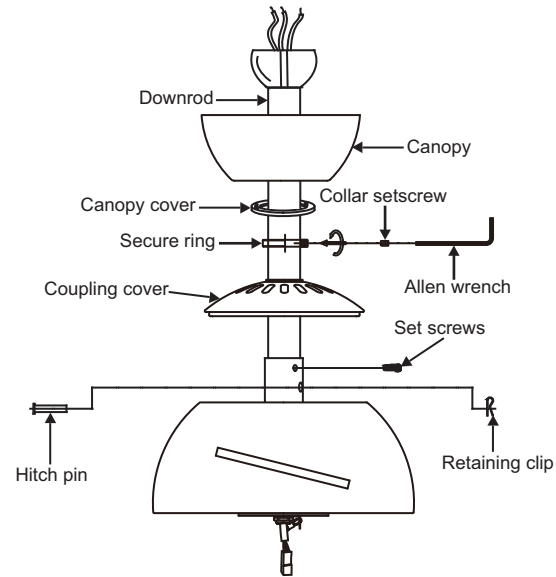

Fig. 9
Step 8. Slip the coupling cover, secure ring, canopy cover and canopy onto the downrod. (Fig. 9)
Slide the secure ring, and fasten using the collar setscrew and Allen wrench provided. (Fig. 9)
Thread the hanger ball onto the downrod, insert the cross pin through the downrod and tighten. Now tighten the set screw. (Fig. 9)